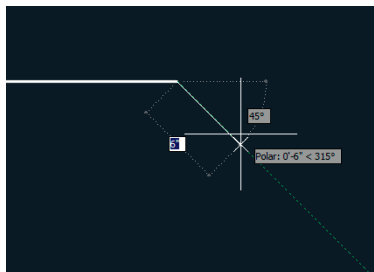

FIGURE 3.6 Drawing a line using Polar Tracking and PolarSnap
4. Move the cursor down at a 45° angle from east, and observe the Snap values that appear with Dynamic Input on screen. Click when the value is 6" (or 150 mm) (see Figure 3.6).